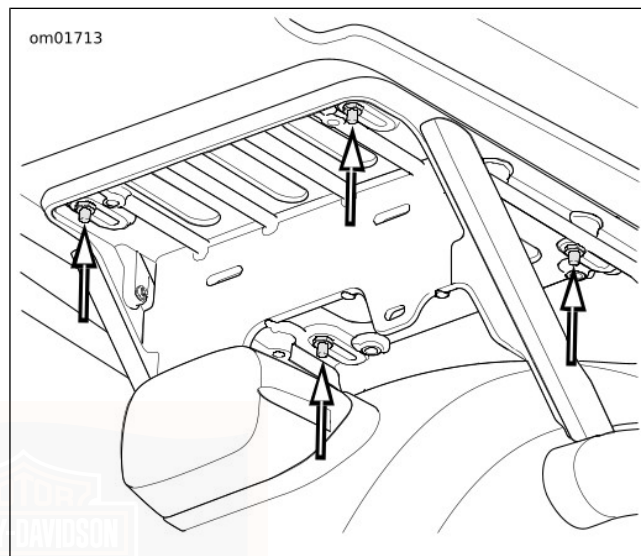

Figure 60. Tour-Pak Position Adjustment
1. See Figure 60. Loosen the four nuts securing the Tour-Pak to the support.